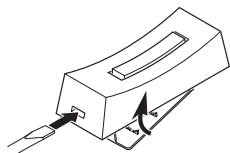
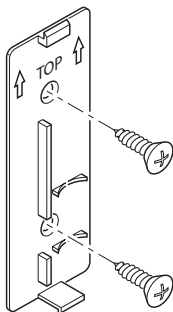

Figure 1
Figure 3
1. **Install alkaline type A23 12 volt push button battery (included).** Remove back of case by pushing in tab on bottom with a small screwdriver (see Figure 1). See diagram inside push button for correct battery orientation. *Note:* If batteries are preinstalled, remove orange battery tab.
- **Screw Mounting:** To mount with screws, remove back of case by pushing in tab on bottom with a small screwdriver (see Figure 1). *Note:* Remove material in screw holes (if needed) before mounting with screws. Attach back of case to door jamb or wall (see Figure 3). Snap front of push button on.